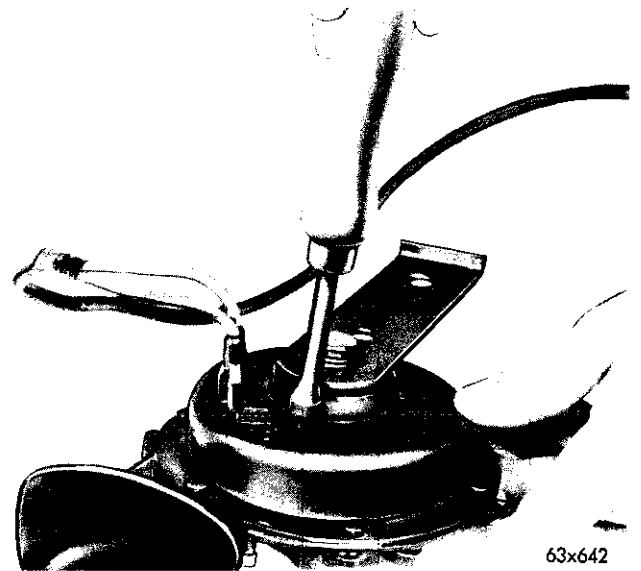

Fig. 1—Adjusting Horn (Sparton Horn Shown)
(1) Disconnect the connections at each horn to determine which horn is not operating.
(2) Remove horn and bracket assembly.
(3) With a suitable tool (Fig. 1), turn the tone adjuster counterclockwise until there is no vibration (sound).
(4) Turn the tone adjuster clockwise, approximately $\frac{1}{4}$ turn at a time until the tone has a clear mellow sound. Do not turn tone adjuster while horn is blowing.